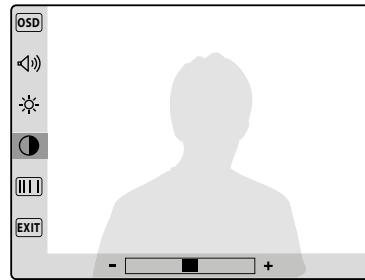

Fig. 3B
- The picture contrast (8 levels Fig.3b);